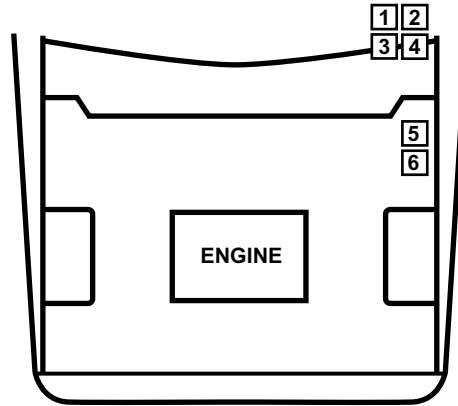

Figure 15-3 Justy common connector locations
- “Justy common connector locations” on page 167 (Table 15-3, Figure 15-3)